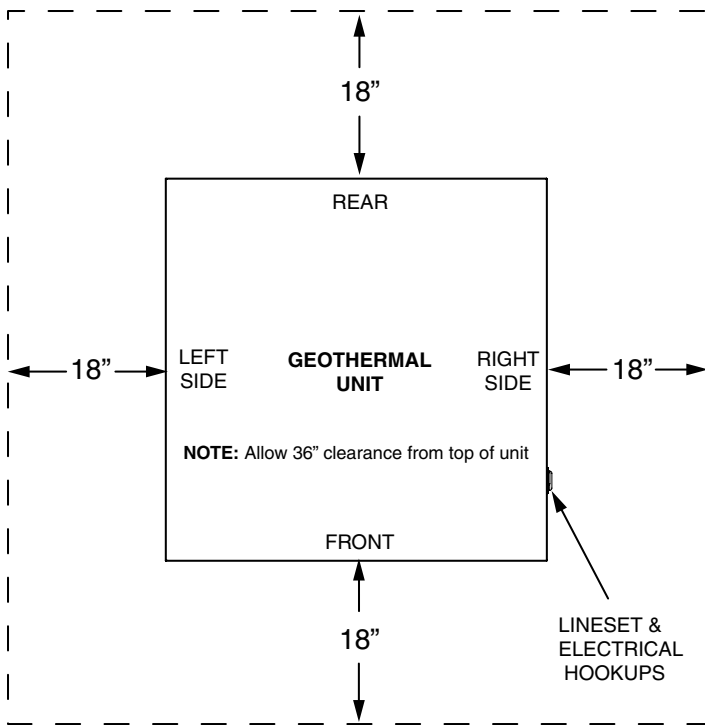

Figure 1. Service Clearances for Interior & Exterior installations
- Sufficient clearance for unobstructed service to the control access panel must be maintained. See Figure 1 \(page 6\).
- Place the compressor unit as close to the air handler as reasonably possible to limit line set distances. See Figure 1.